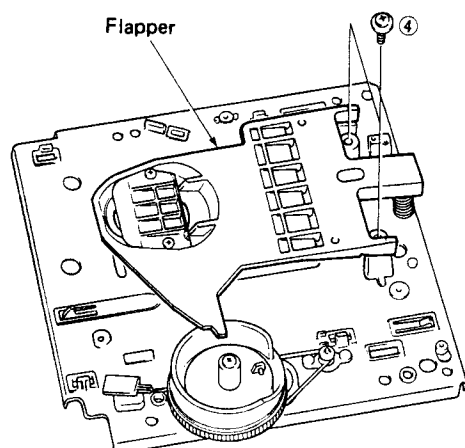

Fig. 5
- a. Remove 2 screws (④) fixing Flapper in Fig. 5 and then remove the flapper.